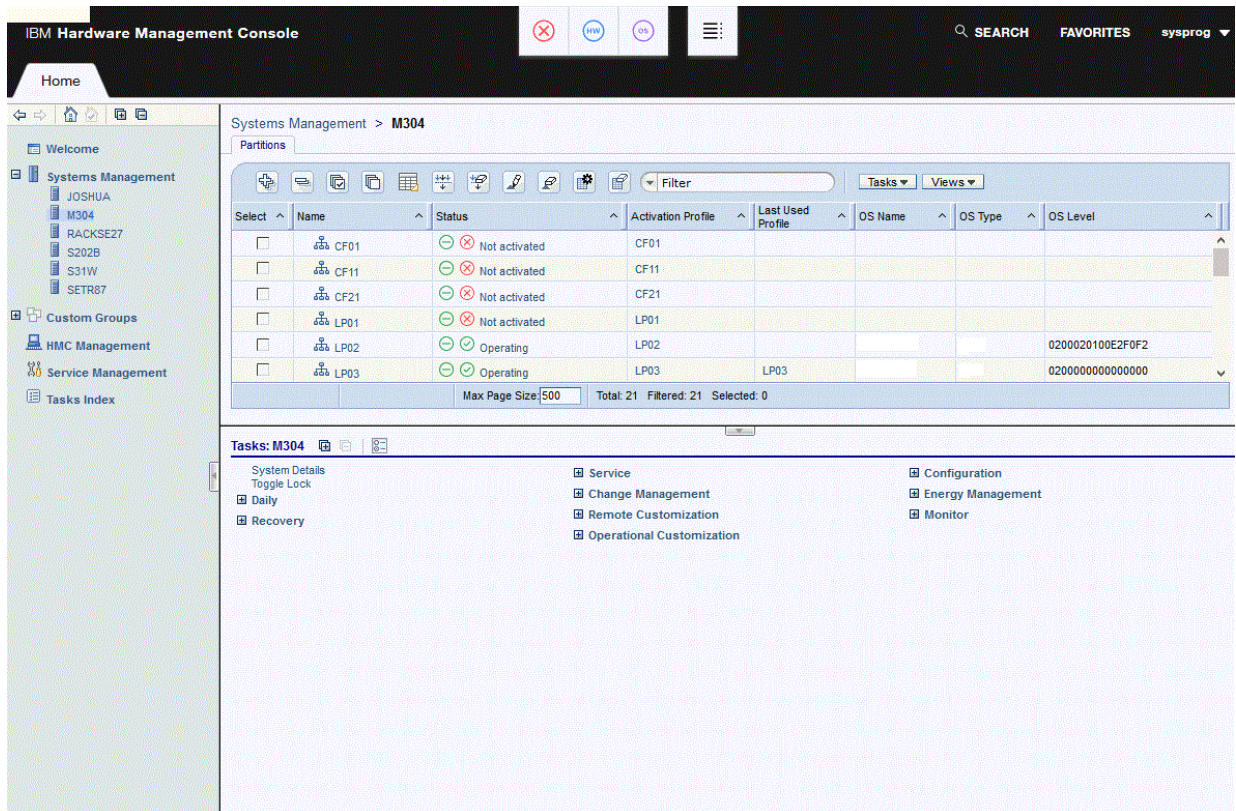

Figure 2. System selected and task categories displayed
4. Click the target system to select it. The tasks pad at the bottom of the work pane in the right portion of the window displays types of tasks that are available. Figure 2 on page 3 shows these types of tasks.